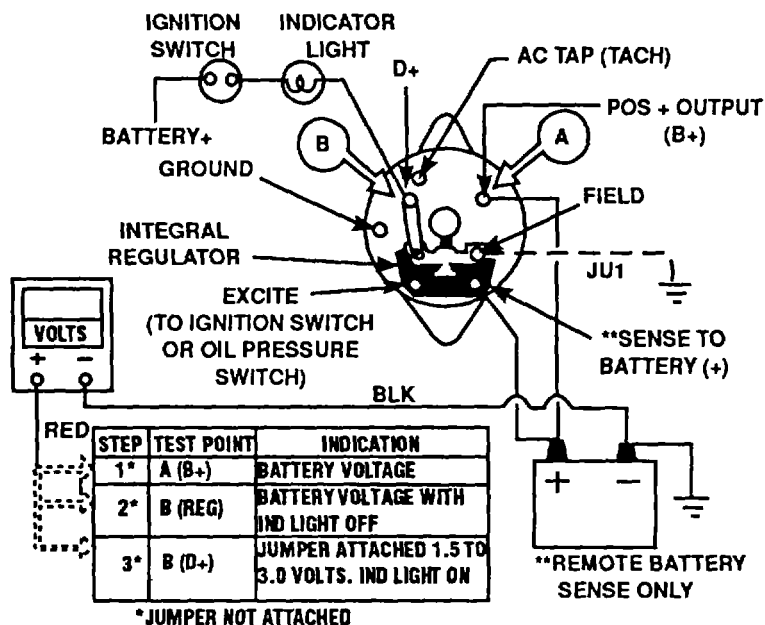

Figure 3-39. Regulator Test
1. Turn ignition on, but do not start engine. Ensure jumper (JU1) is not attached (no electrical load). Check for battery voltage at terminal A and for 1.5 to 3.0 volts at terminal B (figure 3-39).